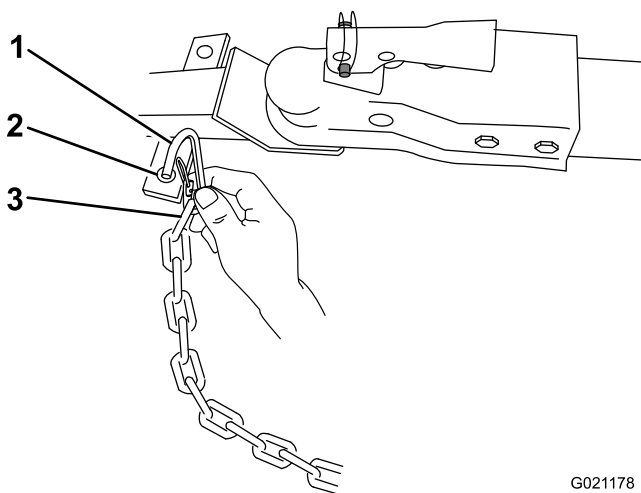

Figure 22
3. Connect each length of chain to the safety chain mounting point on the tow vehicle with the connecting links (Figure 22).